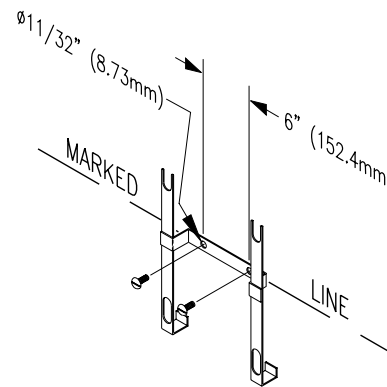

Figure 4 - Mounting Bracket
4. Using appropriate hardware based on wall construction, anchor the mounting bracket to the wall (Figure 4).